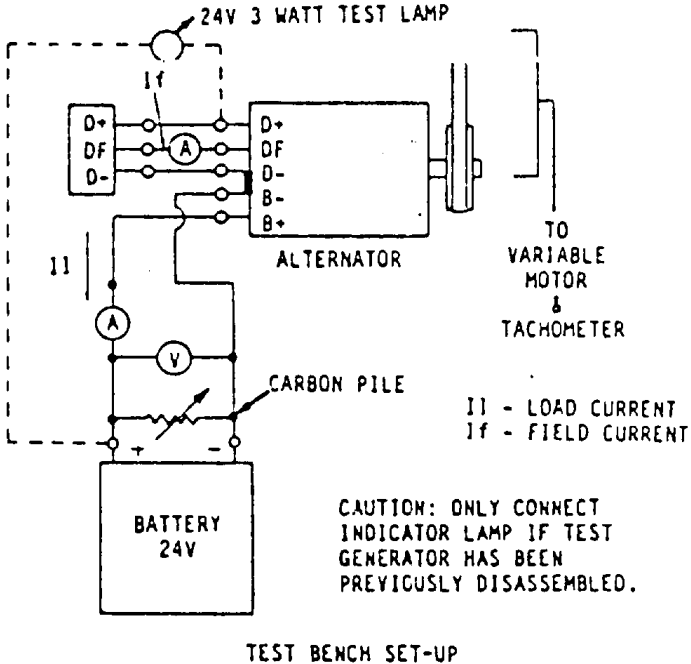

Figure 4-30.
- 2. Discharge capacitor (12) ground .
- 3. Set up alternator on test bench connecting voltmeter, ammeter, battery and carbon pile (Figure 4-30).